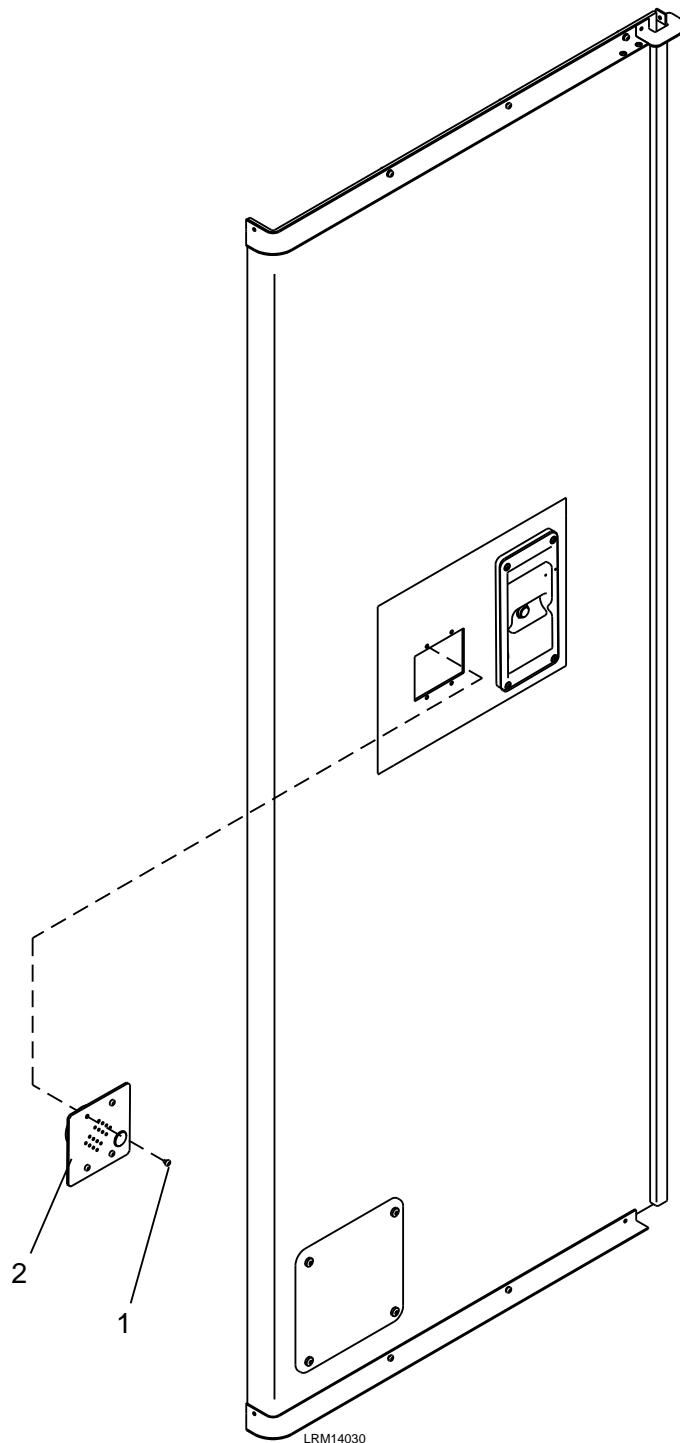

Figure 8-13: Passenger Intercom (PIC)
1. Remove the four M4 x 16 screws (1) from the Passenger Intercom (2). See Figure 8-13.